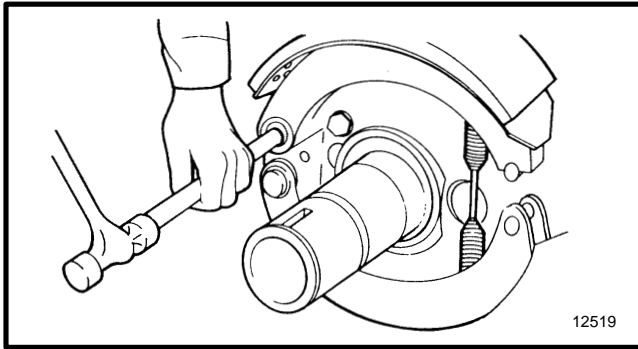

FIGURE 11.
8. Use a brass drift to remove the top anchor pin. See FIGURE 11.